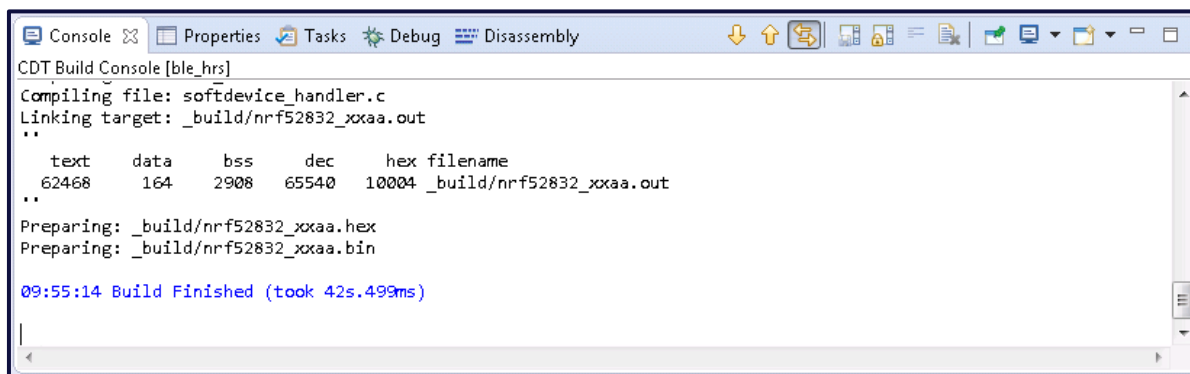

Figure 19: Building the HRS example
13. You can now build the project by clicking **Project > Build All**. Alternatively, click the Build button or **CTRL+B**. Once the project is built, the hex and binary files are generated as shown in (Figure 19).